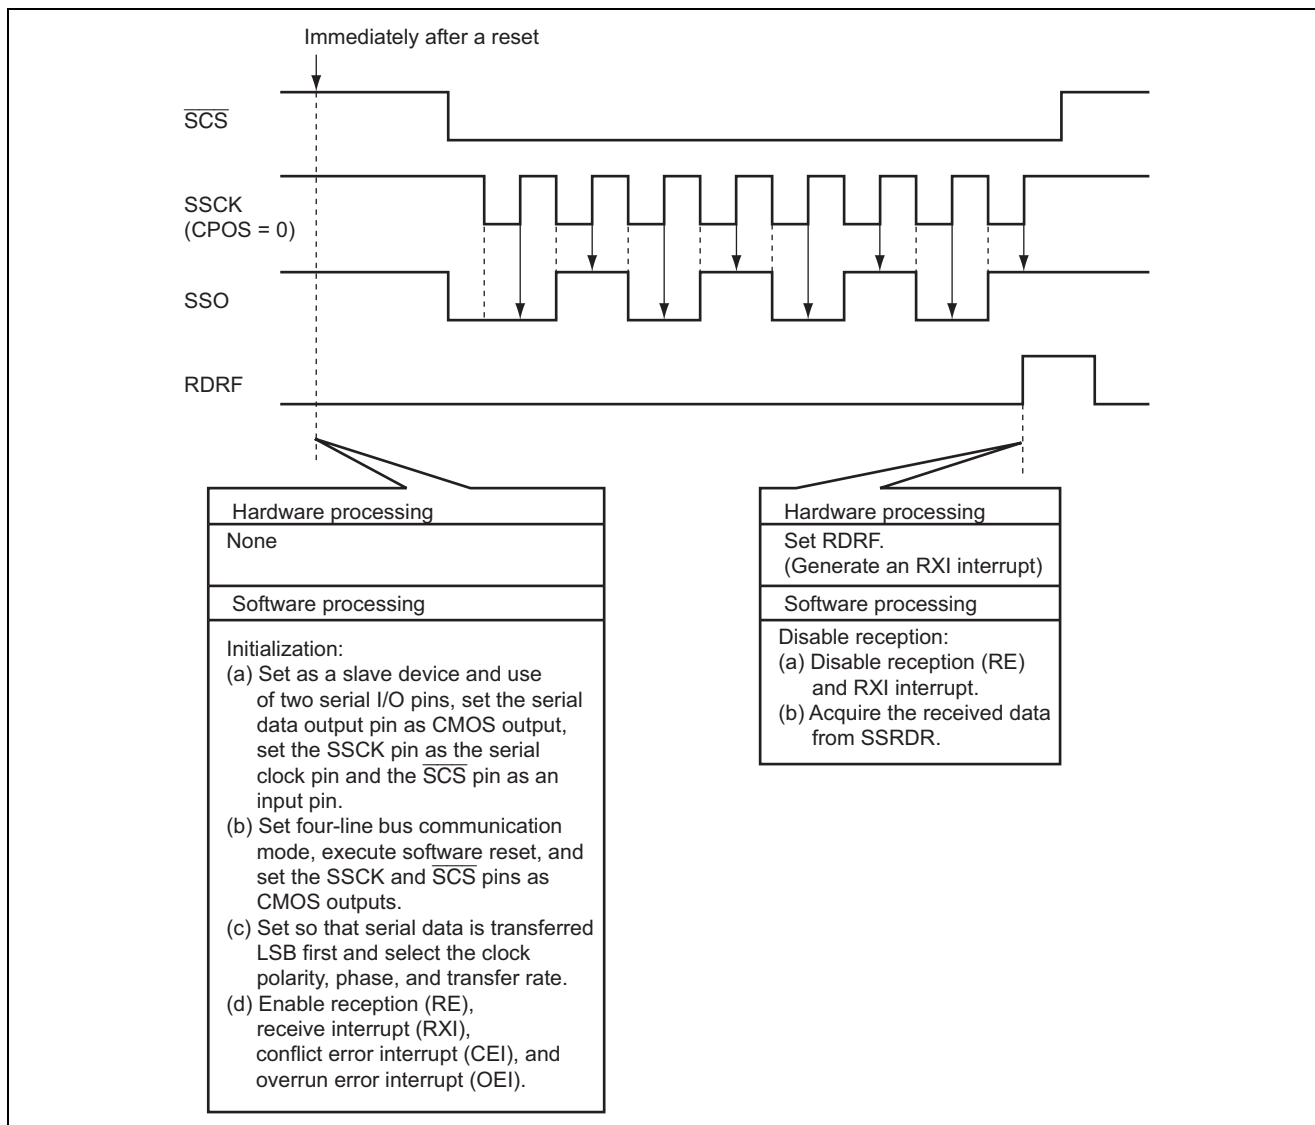

Figure 8 Receive Operation
2. Figure 8 shows the receive operation in this sample task. Hardware and software processing is performed with the timing shown in figure 8 to implement communications between the H8/36057 LSIs.
- Figure 8 shows an example of transmit operation in which the polarity of the SSCK clock is specified to output high during an idle state and output low during an active state (CPOS = 0), the SSCK clock phase is specified to change data at the first edge (CPHS = 0), and 8-bit data (H'AA) is received with LSB first.